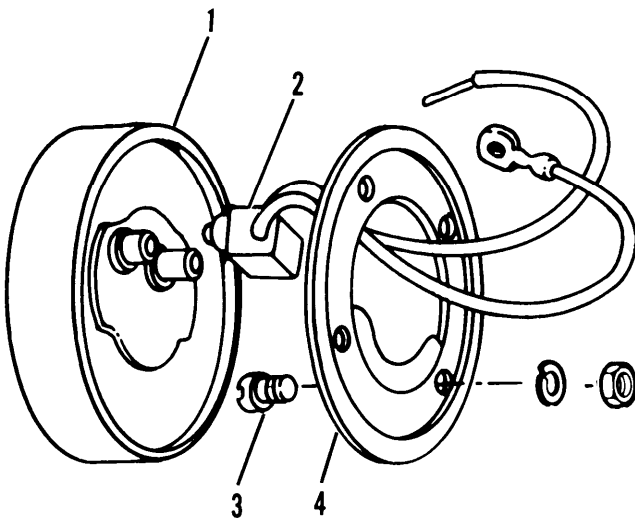

Figure 4-12. Clearance Light (M871)
(1) Rotate light (1, fig. 4-12) one-quarter turn counterclockwise and pull light (1) straight out.
(2) Remove connector (2) from rear of light (1).
(3) Remove two screws (3) and mounting disk (4).
(4) Tag and disconnect wiring from semitrailer wiring and remove connector (2).
(1) Connect connector wiring (2, fig. 4-12) to semitrailer wiring.
(2) Install mounting disk (4) and two screws (3).
(3) Install connector (2) to rear of light (1).
(4) Rotate light (1) one-quarter turn clockwise.
(5) Connect electrical power and test for proper operation.